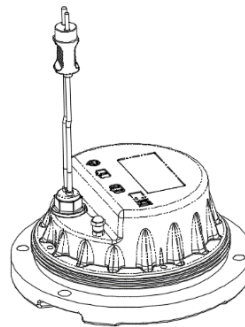

Figure 5-34
- After detection, release the air pressure in the lighting fixture with the air valve of the valve core, re-screw the valve cap and put it into use (Figure 5-34). In case of leakage, check the causes according to the previous prompts and repeat the whole lighting fixture disassembly and assembly process or return it to the factory for maintenance.